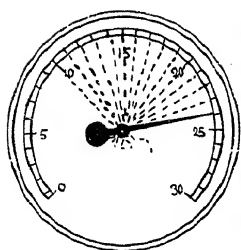

Fig. 21.—WEAK VALVE SPRINGS
11. Weak Valve Springs (Fig. 21)